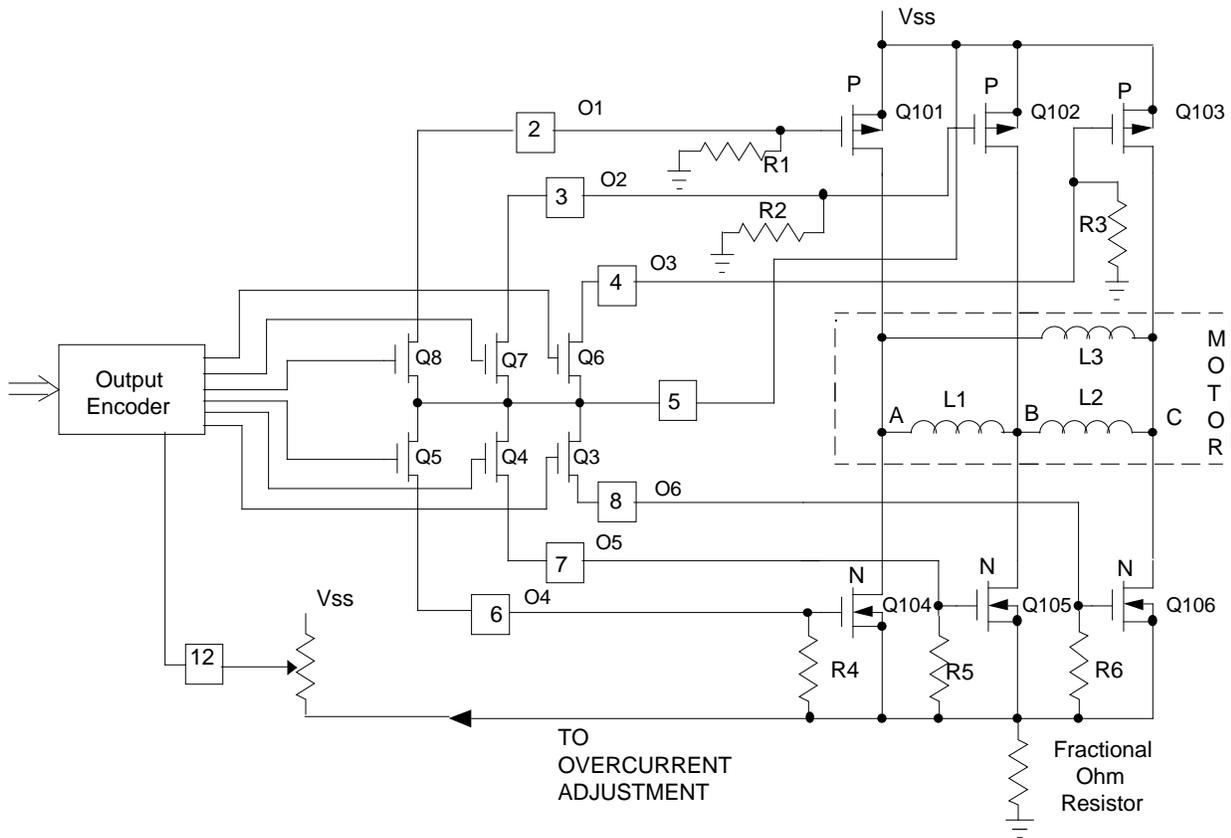
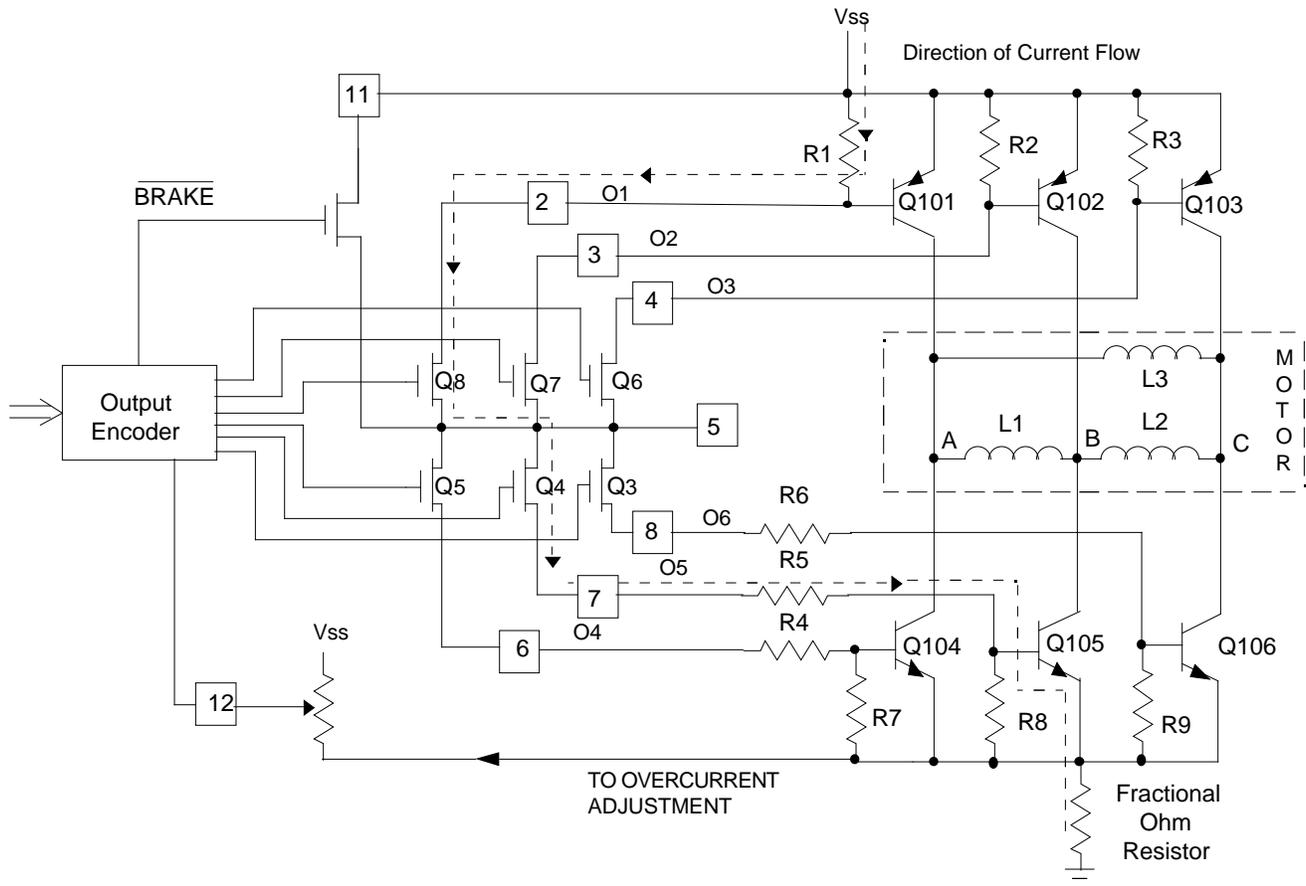

FIGURE 1. LS7260 THREE PHASE OUTPUT DRIVER CIRCUITRY
FIGURE 2. LS7262 THREE PHASE OUTPUT DRIVER CIRCUITRY
A positive braking feature is provided to effect rapid deceleration. While the LS7262 is designed for driving NPN and PNP transistors (See Fig. 2), the LS7260 is designed to drive both NMOS and PMOS Power FETs and develops a full 12V drive for both the N-Channel and P-Channel devices (See Fig. 1) when using a 12V power supply.
For the LS7262, a high level at this input unconditionally turns OFF Outputs 1, 2 and 3 and turns ON Outputs 4, 5 and 6 (See Fig. 2). For the LS7260, a high level at this input turns ON Outputs 1, 2 and 3 and Outputs 4, 5 and 6 (See Fig. 1). In both cases, transistors Q101, Q102 and Q103 cut off and transistors Q104, Q105 and Q106 turn on, shorting the windings together. The BRAKE has priority over all other inputs.
The oscillator is used for motor speed control as explained under VTRIP. Both upper and lower motor drive transistors are pulse width modulated (See Fig. 1 or 2) during speed control. For the LS7262, the outputs turn on in pairs (See Table 3). For example (See dotted line, Fig. 2): Q8 and Q4 are on, thus enabling a path from the positive supply through the emitter-base junction of Q101, Q8, Q4, R5, the base emitter junction of Q105 and the fractional-ohm resistor to ground. The current in the above described path is determined by the power supply voltage, the voltage drops across the base-emitter junctions of Q101 and Q105 (1.4V for single transistor or 2.8V for Darlington pairs), the impedance of Q8 and Q4 and the value of R5. Table 1 provides the recommended value for R5. R4 and R6 are the same value.
For the LS7260, (See Fig. 1) the external drivers also turn on in pairs. Internal operation is somewhat different than the LS7262. For example, external transistors Q101 and Q105 will turn on when internal transistor Q8 turns off and Q4 turns on enabling full power supply drive on Q101 and Q105. Since Pin 5 is tied to Vss, the gate of P-channel Driver Q101 is brought to ground by R1 and the Gate of N-Channel driver Q105 is brought to Vss by Q4. Other external output pairs turn on similarly and the commutation sequence is identical to that of the LS7262 (Table 3). Table 2 indicates the minimum value of R1 (=R2=R3=R4=R5=R6) needed as a function of output drive voltage for Fig. 1.
*See Figures 1 and 2. For the LS7260, Outputs O1,O2,O3 are the logical inversions of the corresponding Outputs of the LS7262.